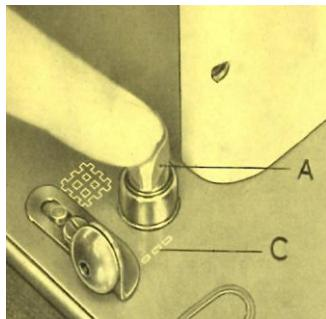

Figure 29
- Set Button A in such a way that one of its prongs is facing the lineal alignment mark C on the bed plate (Figure 29)